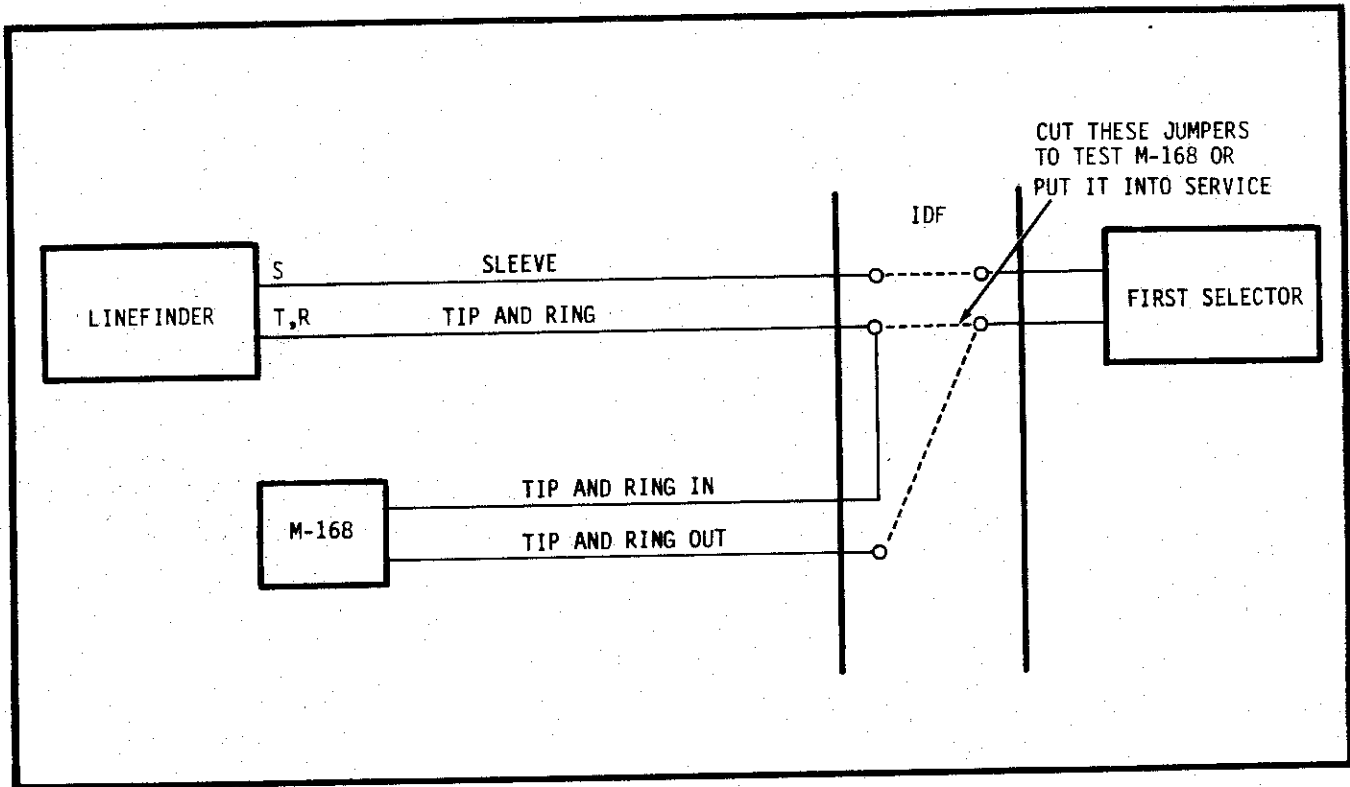

Figure 12 IDF Wiring Installation Method
**6.31** Two methods of wiring have come into practice in conversions of step-by-step equipment. The IDF (Intermediate Distribution Frame) wiring method, cables both the Tip and Ring pairs, IN and OUT, of the M-168's to the IDF as shown in Figure 12. The IN pairs of the M-168's are connected to their appropriate linefinders by direct connections on the IDF. The OUT pairs of the M-168's are wired to the IDF and then connected to their appropriate selectors with new jumpers on the IDF. The original jumpers can be left in place until the M-168's are to be tested. Removal of the original jumpers then puts the M-168's into service with the minimum interruption of subscriber service. The IDF wiring method has three drawbacks: it consumes space on the IDF, it requires wiring work on the IDF, and it demands updating of the cross connect records.